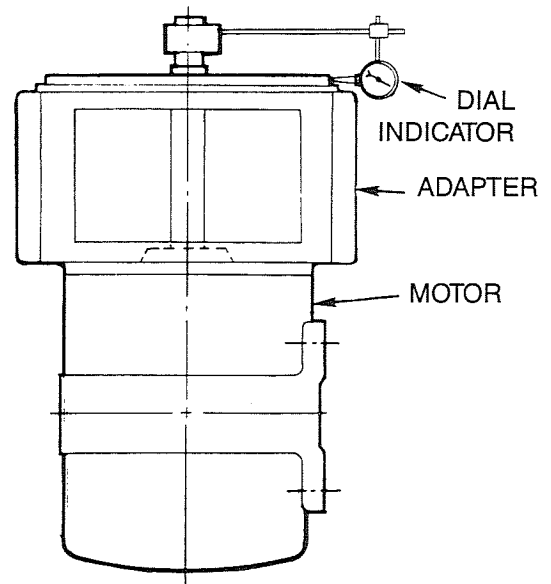

Fig. 3 — Dial Indicating the Motor Adapter
2. Place a dial indicator on the shaft such that the indicator reads run out between the motor shaft and the casing locating fit on the motor adapter. See Fig. 3